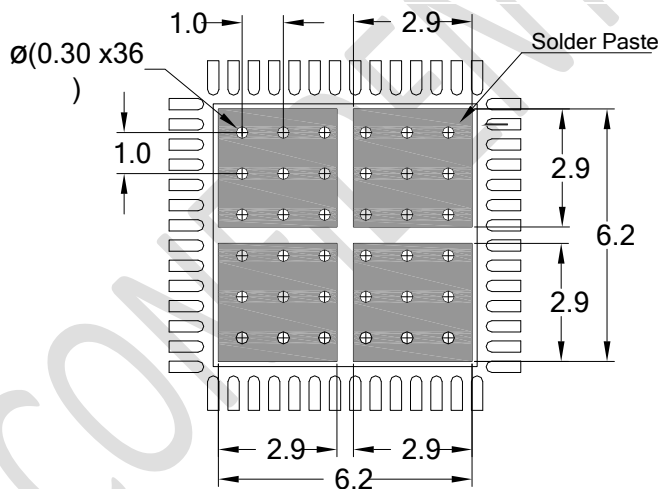

Figure 21: Top Solder Printing Mask (CS)
- ◆ If copper plating does not plug the vias, apply stencil print solder paste onto the printed circuit side. This provides sufficient solder paste, filling those vias to avoid the above mentioned voids. Figure 21 and Figure 22 show the associated, solder printing masks (CS & PS). The solder mask openings are lined-up in respect to the 6 x 6 thermal via array. Since large solder printing mask openings may result in poor release, the opening should be subdivided as shown in these figures.